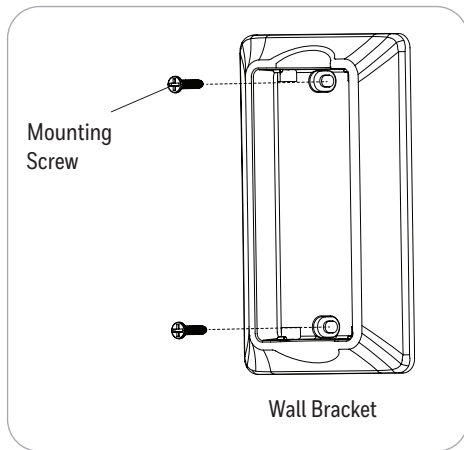

Figure 5.10
10. If desired, the wall bracket in remote pack can be installed to a wall using the provided mounting screws. The remote can be stored in the mounting bracket for easy access (Figure 5.10).